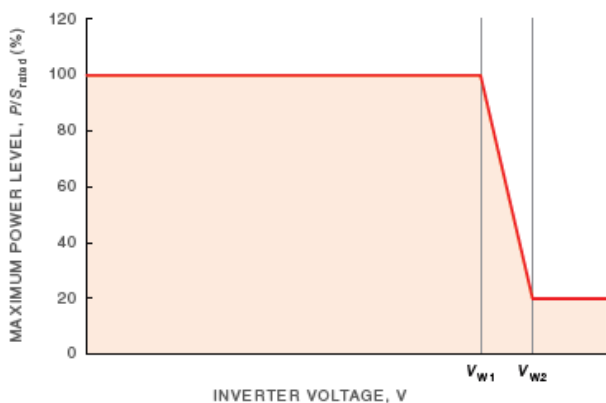

Figure6-2 Example curve for the volt-watt response mode
1. The inverter is expected to provide a volt-watt response as per Figure6-2.